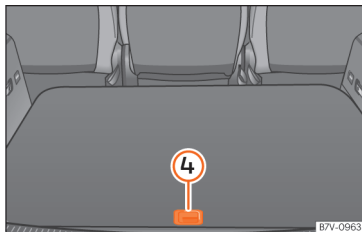

Fig. 168 Other compartments in the boot floor.
- **Opening:** use the handle to lift the rear part of the luggage compartment floor »» Fig. 168 ④.
- **Closing:** fold the hook away and press down on the rear part of the luggage compartment floor ④